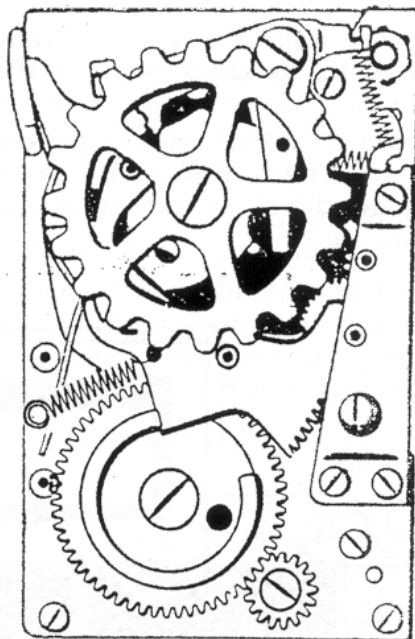

Fig. 8
- o) Fit and screw on the pinion for the delay-wheel 370.065-35, as illustrated in Fig. 8 (if necessary transpose the pinion at the flats on the spindle, as the number of teeth is odd).